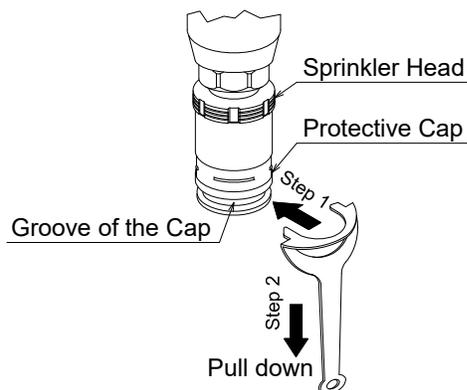
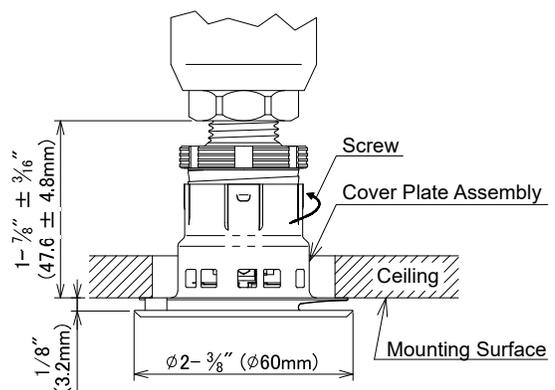
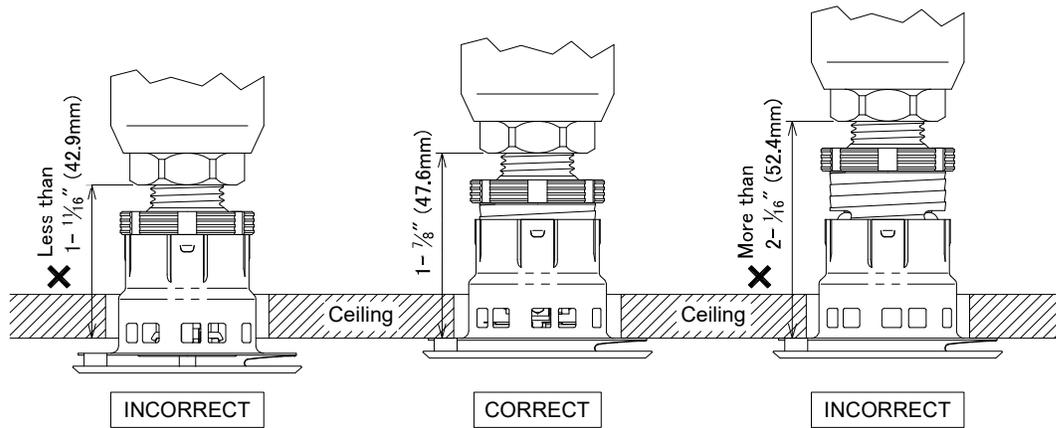

Figure 5: Protective Cap Removal
Figure 6: Installation (Cover Plate Assembly)
Figure 7: Installation (Correct and Incorrect)
Step 4: Use the Protective Cap Removal Tool to remove the Protective Cap (Ref. Figure 5) and then push/screw a Cover Plate Assembly on the Frame of the Sprinkler by hand until its flange just comes in contact with the ceiling (Ref. Figure 6 and Figure 7). Stop tightening the Cover Plate Assembly once the flange has come in contact with the ceiling. If the ceiling has been lifted from its normal position in the process of tightening of the Cover Plate Assembly, readjust the cover plate assembly as necessary. If the flange of the Cover Plate Assembly cannot come in contact with the ceiling sufficiently, readjust the sprinkler fitting as necessary. When properly installed, there is a nominal 1/8 inch (3.2mm) air gap between the lip of the Cover Plate and the ceiling, as shown in Figure 6.
Install the cover plate assembly properly, as shown in Figure 6. Improper installation of the cover plate assembly may cause improper operation or non-operation.